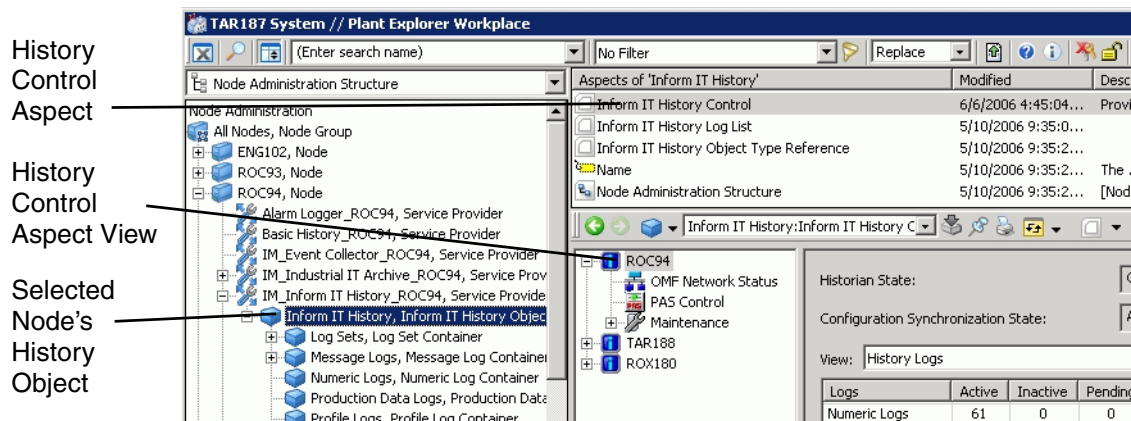

Figure 331. Accessing the Configuration View for the History Admin Aspect
2. Select the **Inform IT History Control** aspect, Figure 331.